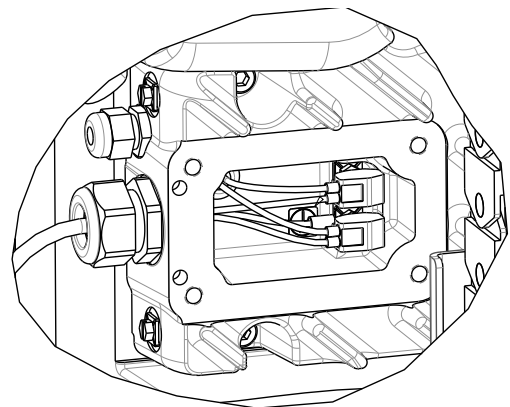

FIG. 47: Wires in Driver Housing
- a. If using an ambient Single Ram Supply System, turn the red Disconnect Switch (AZ) OFF.
- b. If using a heated Single Ram Supply System, turn the red Disconnect Switch (AZ) OFF.
- c. If using an ambient Tandem Ram Supply System, turn the red Disconnect Switch (AZ) OFF only on the Ram Supply Unit the Driver is being removed from.
- d. If using a heated Tandem Ram Supply System, turn the red Disconnect Switch (AZ) OFF only on the Ram Supply Unit the Driver is being removed from.
4. Disconnect power from the Driver (AB):
- a. Remove the Driver housing cover (HC).
- b. Disconnect the wires inside the Driver housing. See FIG. 47.